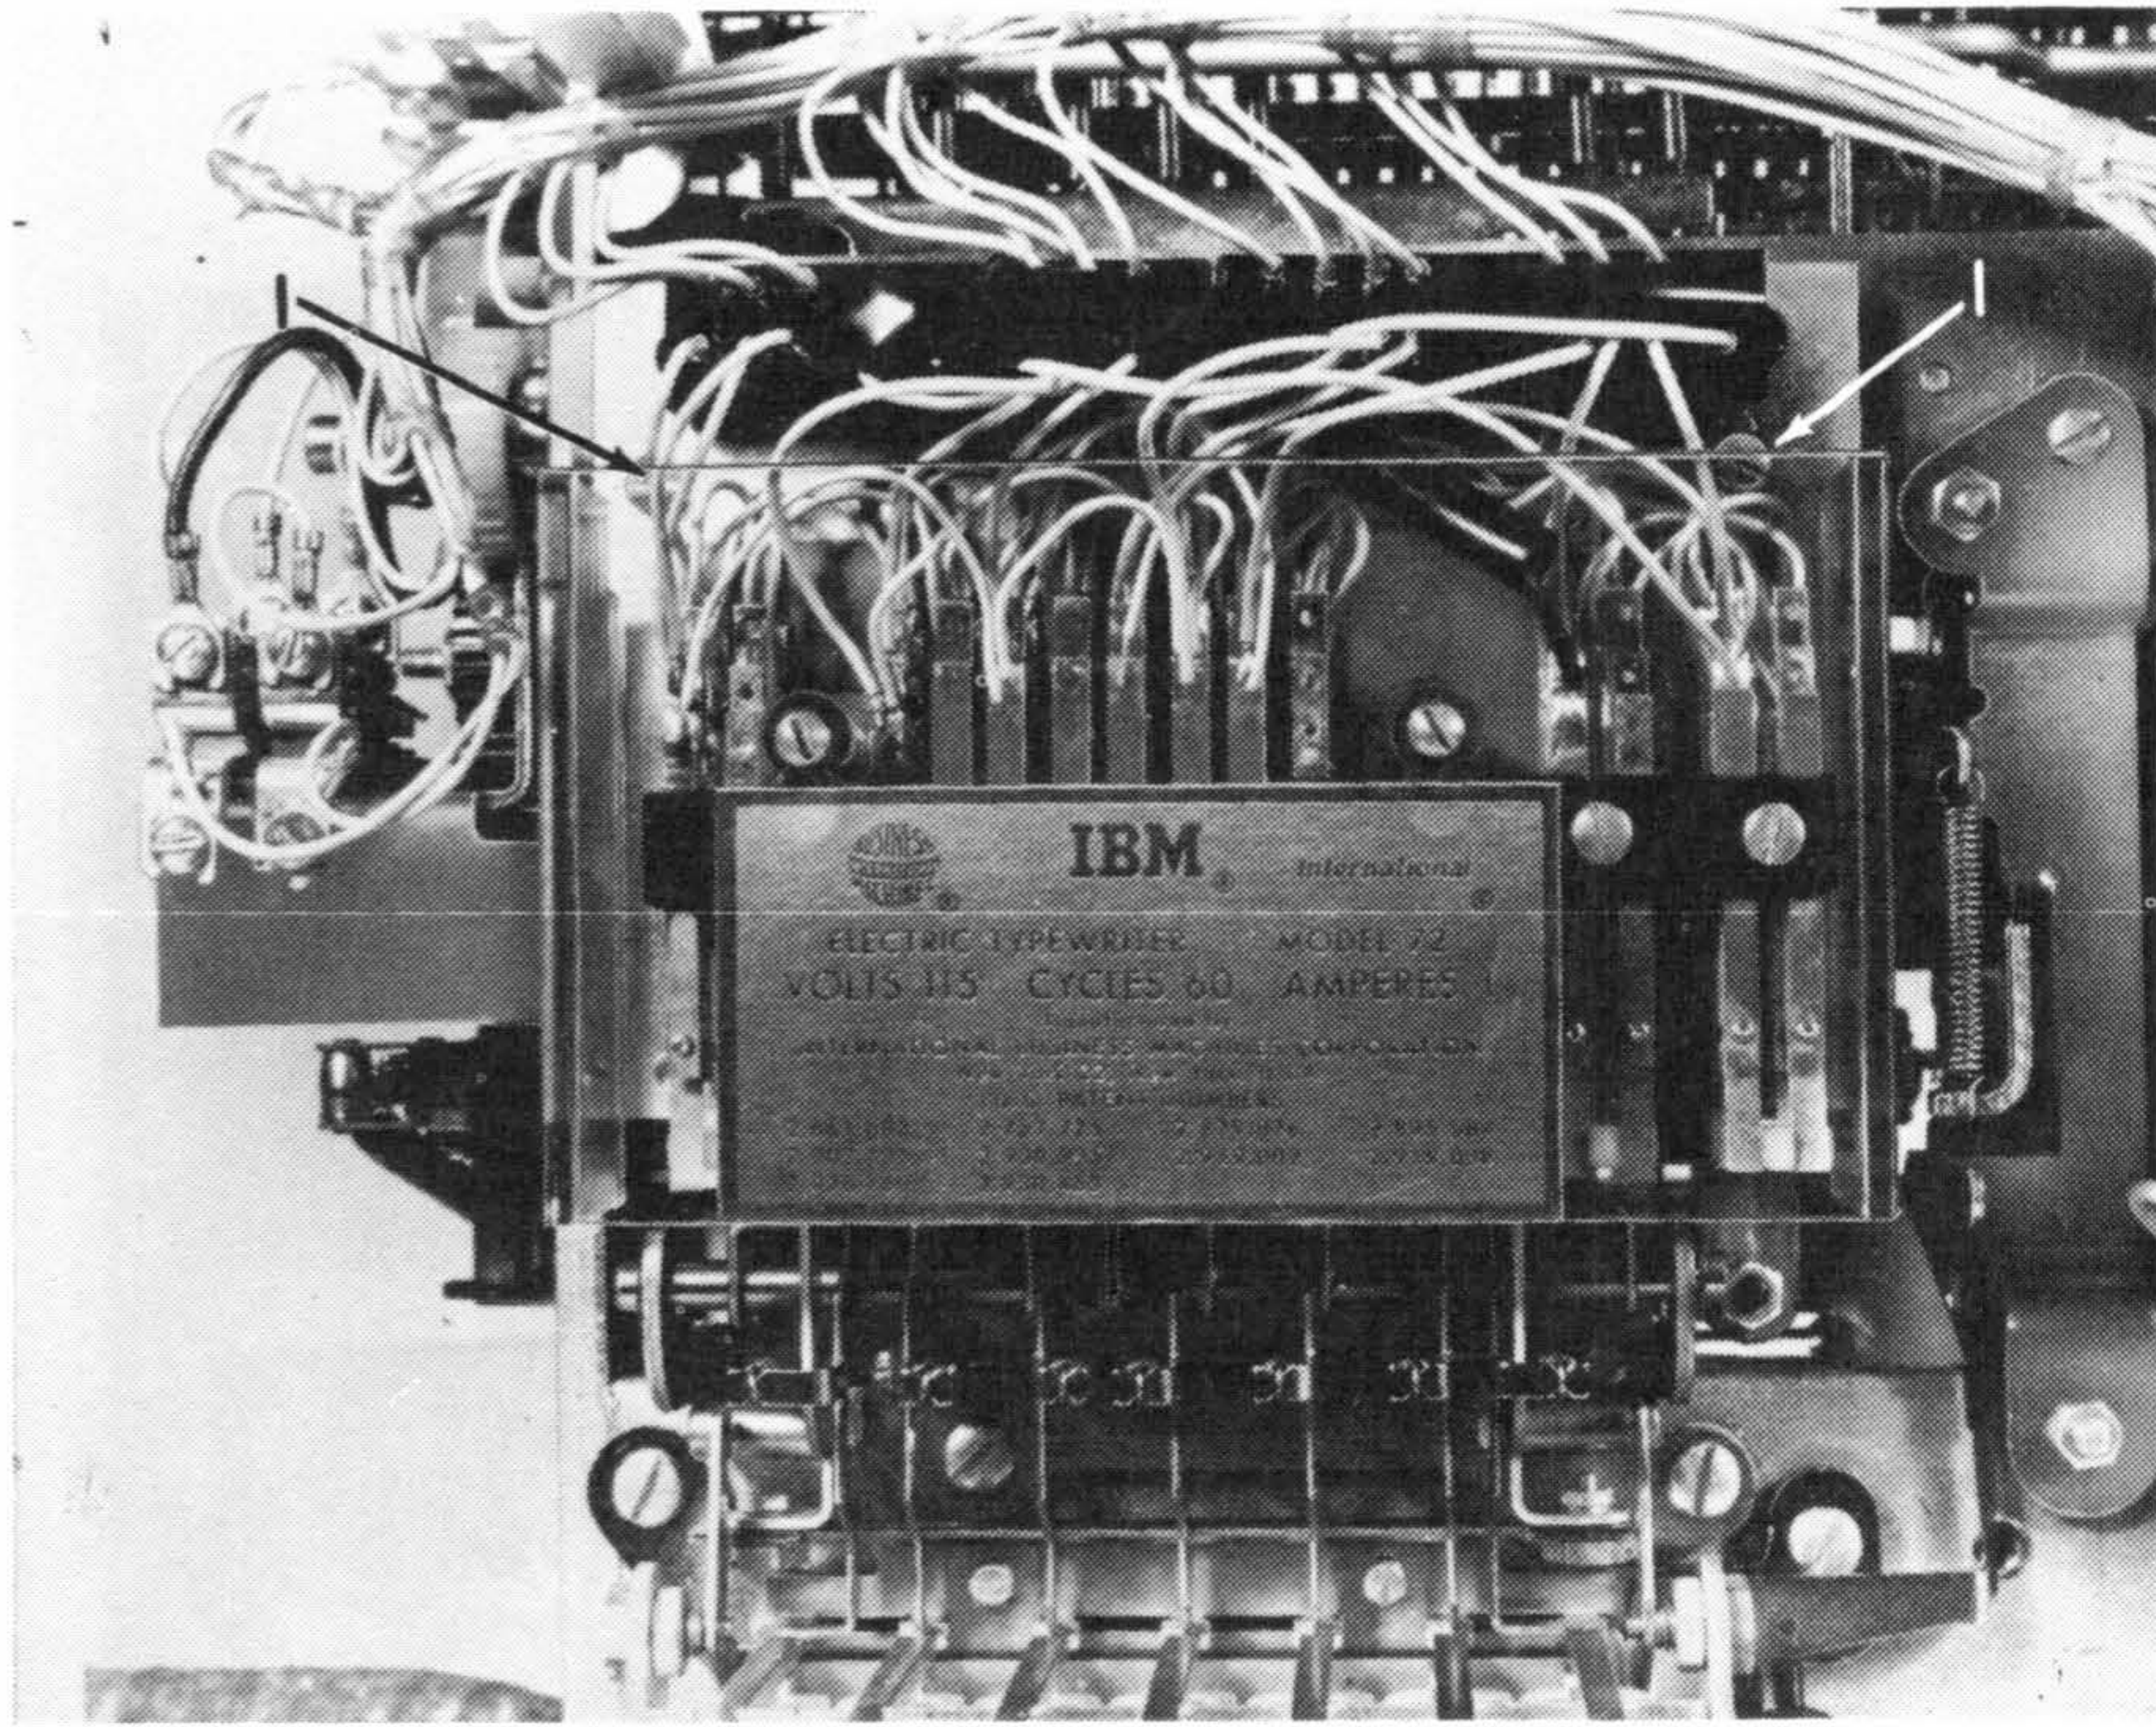

Figure 21. Rotare Selection Differential Removal
3. Remove the two screws (#1, Figure 21) that hold the plate to the frame. Remove the contact assembly, holding it to the front with a rubber band.